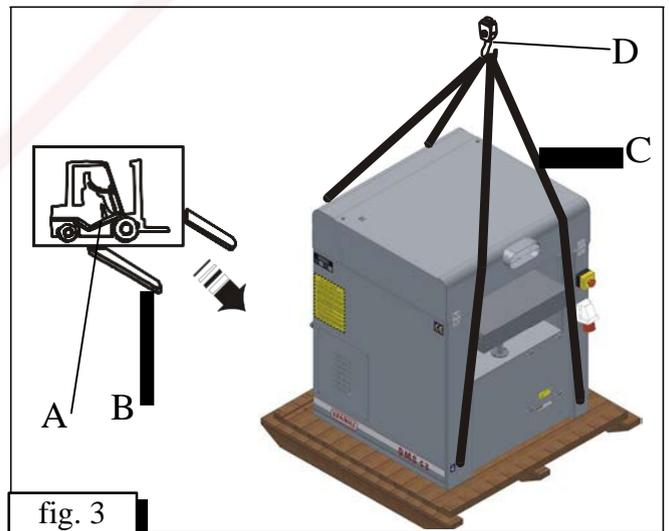

fig. 3
- the fork B of the truck should be positioned to the machine as shown on fig. 3;